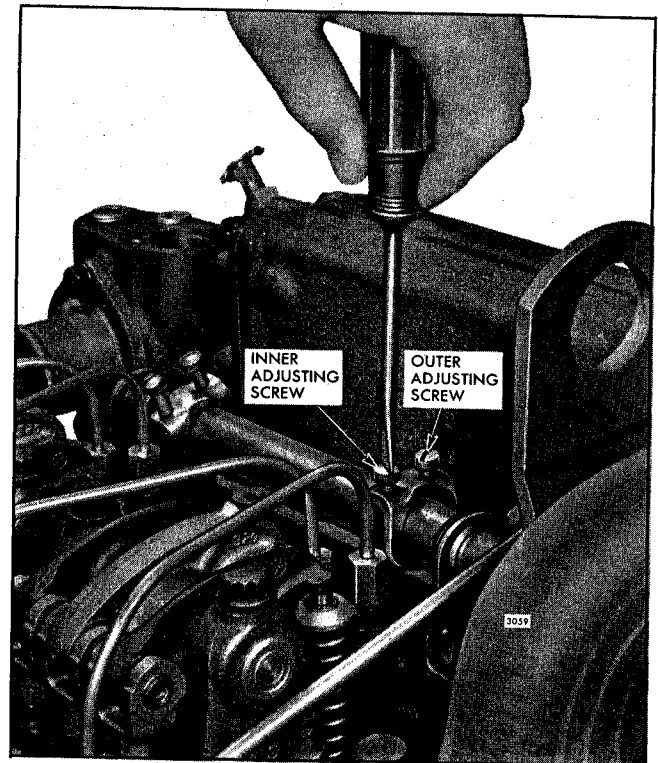

Fig. 2 - Adjusting Height of Rack Control Lever Adjusting Screws
1. Adjust the inner and outer adjusting screws (Fig. 2) on the rear injector rack control lever until both screws are equal in height and tight on the control tube. Check the clearance between the fuel rod and the cylinder head bolt or the cylinder head casting (below the bolt) for at least $1/6$ " clearance when the injector rack is in the Full-Fuel position and the rack adjusting screws are tight. If the fuel rod contacts the bolt or cylinder head casting, re-adjust the screws to obtain the $1/6$ " clearance.